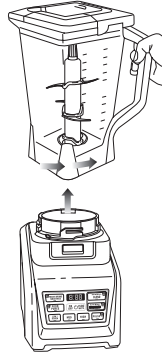

Fig. 9
- Turn the pitcher anticlockwise to remove and then lift off the base. (Fig. 9)